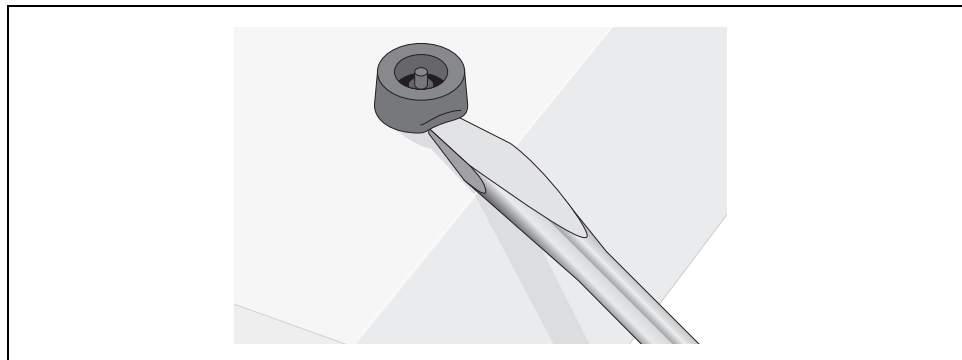

Figure 17. Removing the Feet
2. Using a flat-head screwdriver, remove the snap-on plastic feet from the bottom of the switch, as shown in Figure 17.